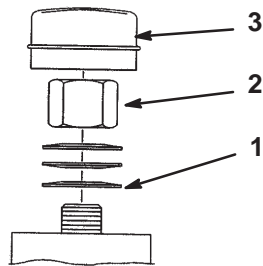

Figure 47
2. Remove the dust cap from the castor and tighten the locknut (Fig. 47).
3. Tighten until the spring washers are flat and then back off 1/4 turn to properly set the preload on the bearings (Fig. 47).
Important Make sure that the spring washers are installed correctly as shown in Figure 47.